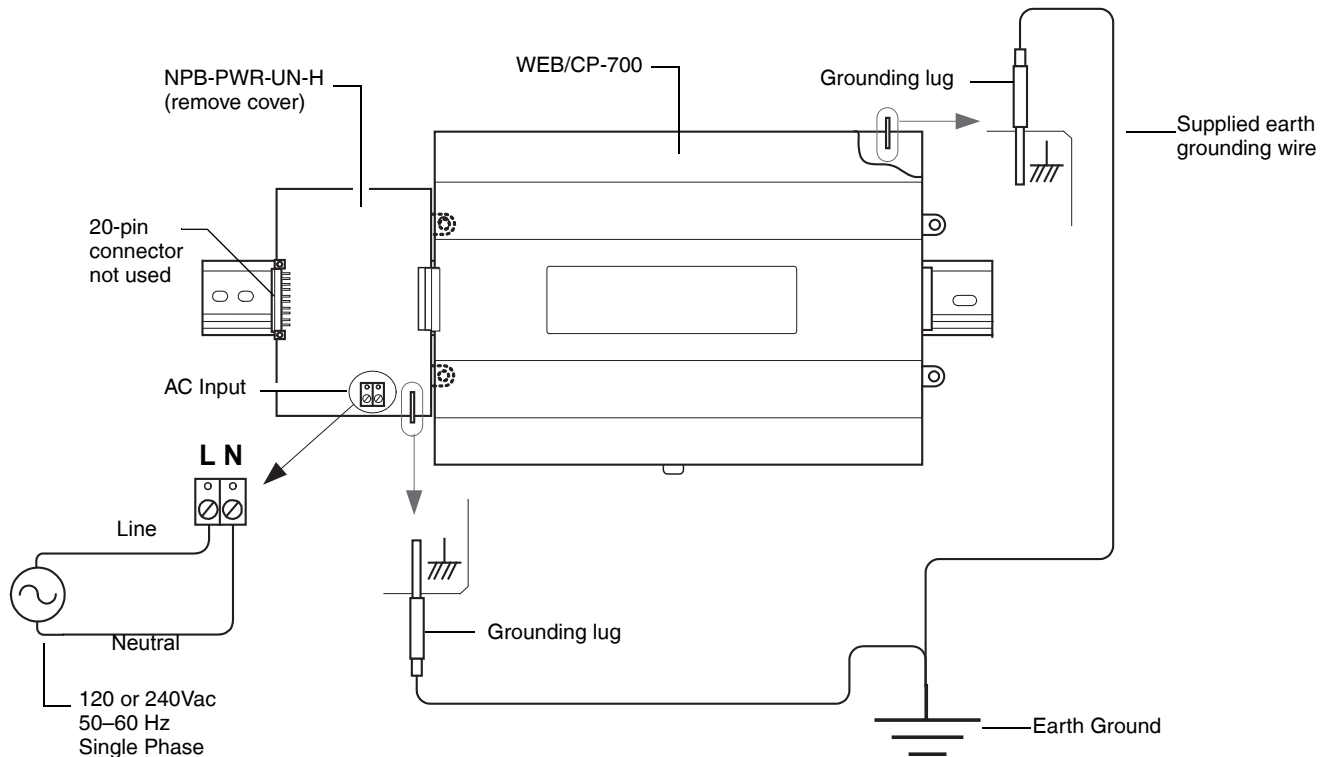

Fig. 7. Grounding and power wiring connections to NPB-PWR-UN-H module.
An earth ground spade lug (0.187") is provided on the controller for connection to earth ground. For maximum protection from electrostatic discharge or other forms of EMI, connect the supplied earth grounding wire to this lug and a nearby earth ground. Keep this wire as short as possible, see Fig. 7.
The NPB-PWR-UN-H module lets you power the WEB/CP-700 (and if installed, connected I/O modules) from AC line power, with a universal input range from 90–263Vac. The NPB-PWR-UN-H installs on the **left side** (end) of the WEB/CP-700 controller. See Fig. 7.
Power input connections are made to the terminals on the NPB-PWR-UN-H circuit board (cover removal is required). Use the supplied earth grounding wires to make a connection from a nearby earth ground to the grounding lug on both the NPB-PWR-UN-H power supply and the WEB/CP-700 controller. See Fig. 7, page 15.
3. Connect the supplied earth grounding wire to a nearby grounding point. See Fig. 7.